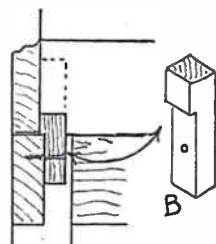

Fig. 3
It will be desirable in most cases to add stopping slips at the top of the stand to prevent the article on it from moving. These are cut to the shape at (B) in Fig. 3, and are nailed or screwed to the inside of the rails as in the diagram, and should project about 1/4in. above. As seen at (B) the projecting portion of these stops should be cut to make up any difference between the thicknesses of rails and plinth above.